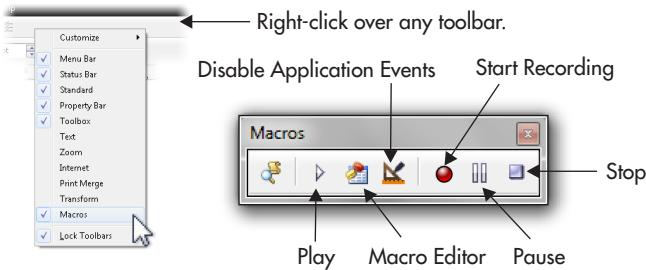

FIGURE 1 Use the Macros toolbar much in the same way you use any onscreen or even physical recording device. The buttons are labeled with universal symbols.
3. Right-click any of the toolbars at the top of the application window. From the pop-up menu choose the Macros toolbar. The list of macro commands is shown in Figure 1. The Tools | Macros commands can be used to record a macro, but it's easier to use the Macros toolbar.